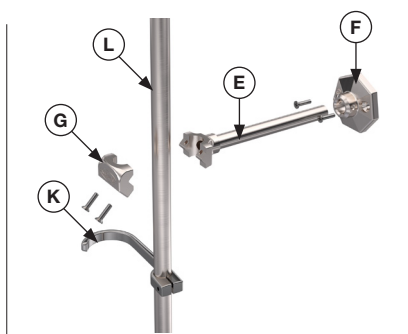

Figure 3
10. Determine the position on the wall for the wall bracket brace (F), making sure it is near the top of the riser pipe (L).
11. Determine the correct length of the support rod (E) from the wall to the riser pipe (L). Cut the support rod to size (Figure 3).
12. Install the wall bracket brace (F) on the wall with the included screws. Press the end of the support rod (E) into the bracket brace. Tighten set screw to secure it in place.
13. Install the head of the support rod (G) around the riser pipe (L) with the two supplied screws. Loosen the spray head hook (K) and center it on the riser pipe (L). Tighten when it is in place.
14. Loosen the spray head hook (K) and center it on the riser pipe (L). Tighten when it is in place.